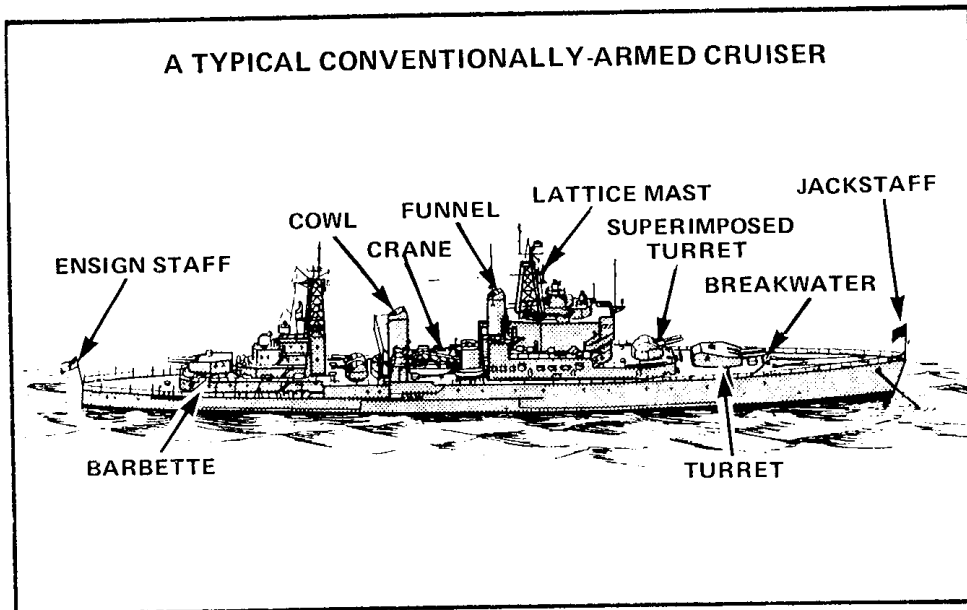

Figure 8-87 A Typical Conventionally-Armed Cruiser
26. **Terminology** — (See Figure 8-87.) These terms are used in describing a Cruiser: